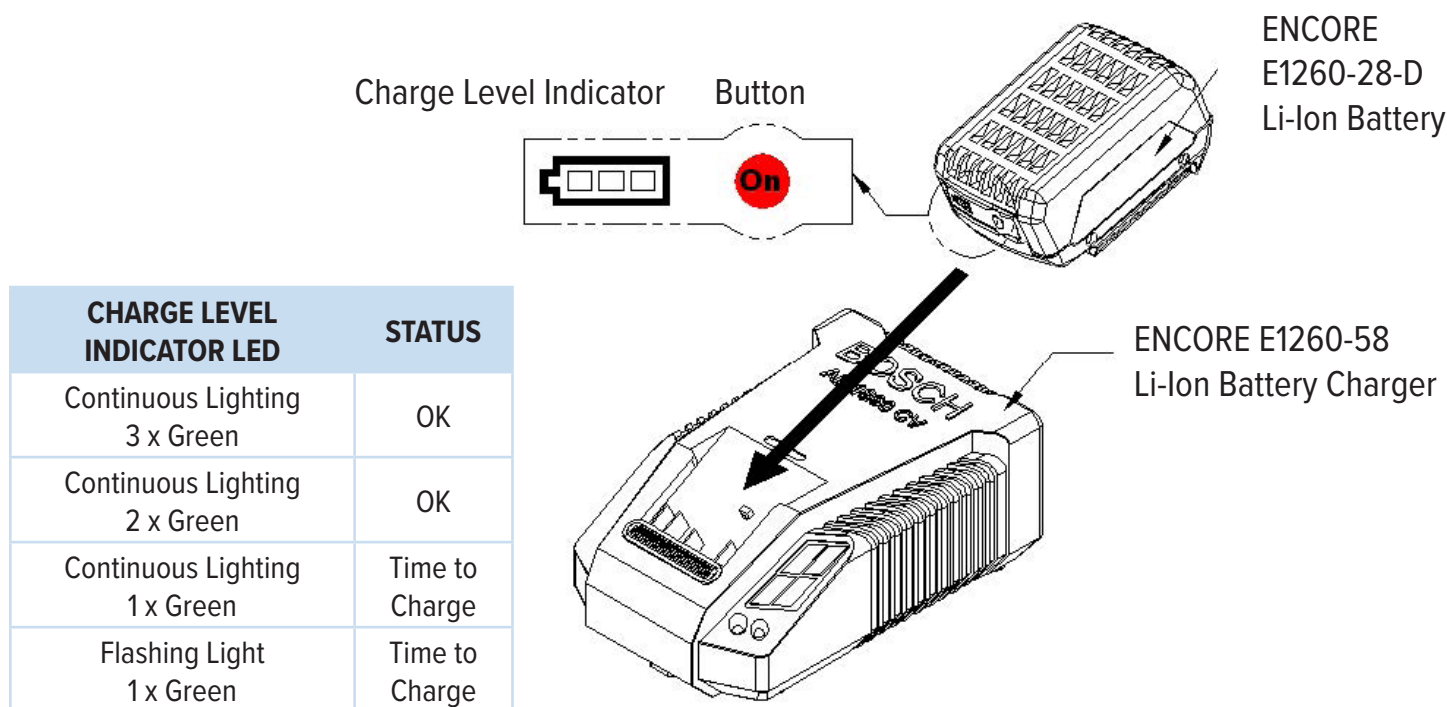

FIGURE 5. ILLUSTRATION OF INSERTING BATTERY ONTO CHARGER
Refer to FIGURE 5 to insert the battery into charger (Please refer and follow the safety instruction and operation of the battery and charger user manual.)
- Each ENCORE E1260-28-D Li-Ion Battery is equipped with Charge Level Indicator. Press button to check the status of charge level condition (capacity), as shown on Figure 5.